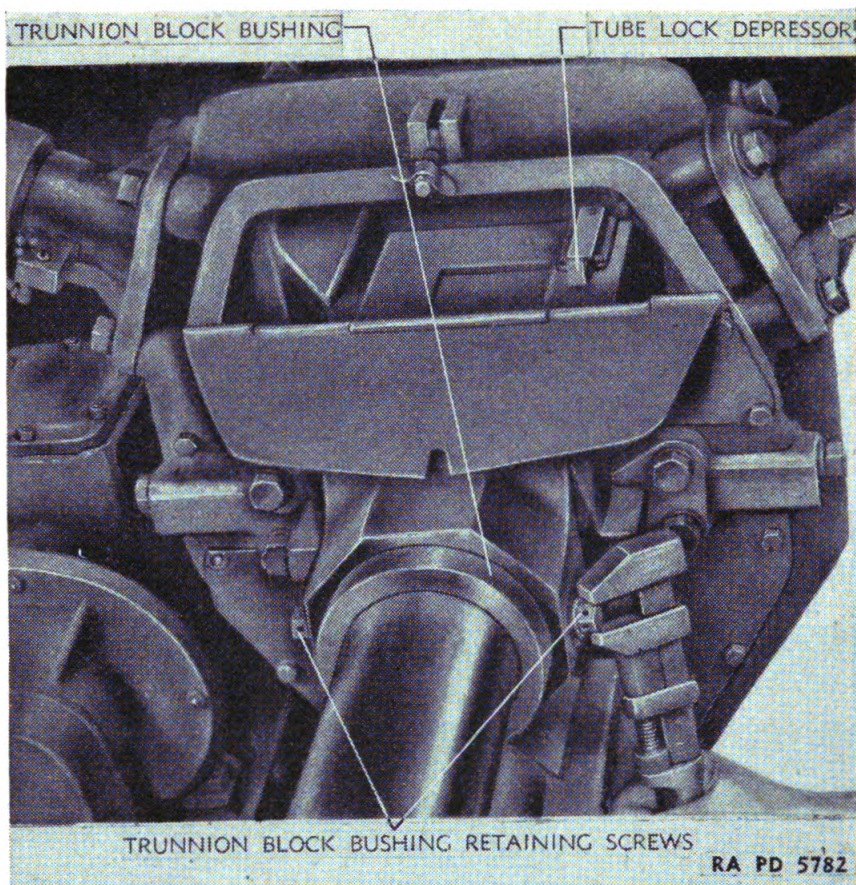

FIGURE 51.—Removing trunnion block bushing retaining screws.
(4) Remove the trunnion block bushing retaining screws (fig. 51).